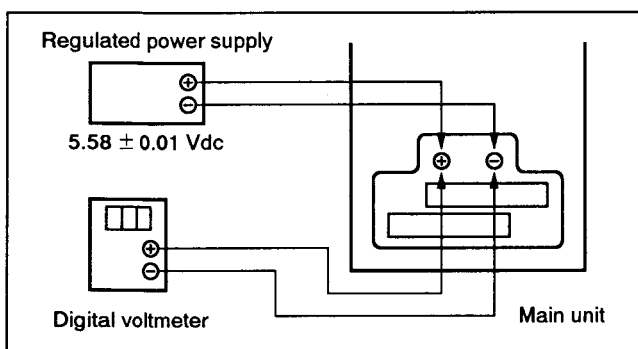

Fig. 9-5.
- 1) Connect the regulated power supply and the digital voltmeter as shown in Fig. 9-5.